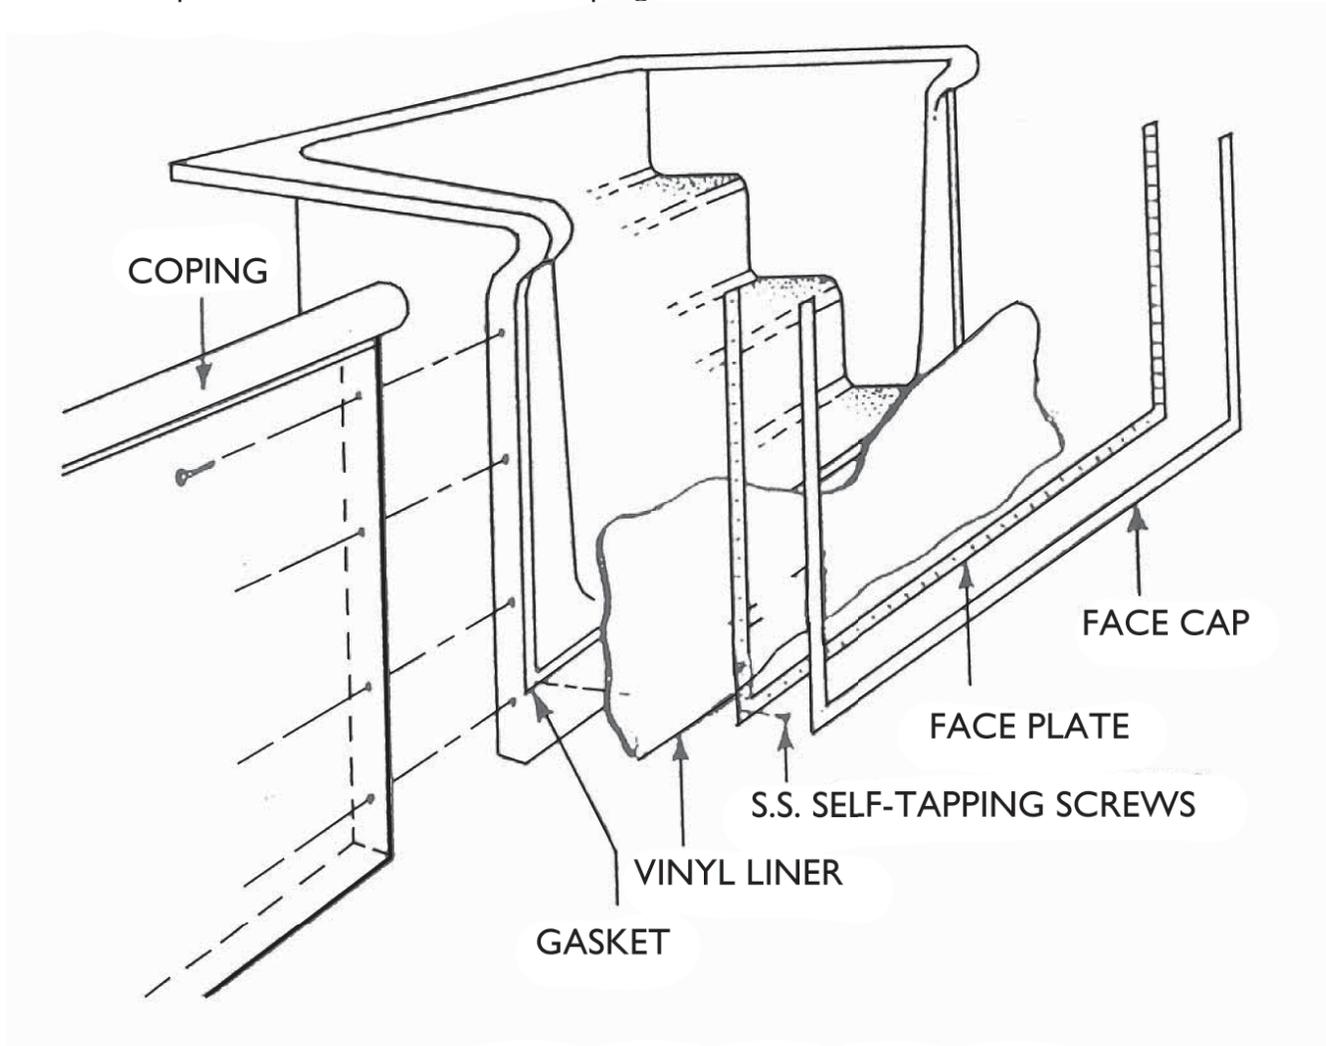

Figure 24: Step Faceplate Installation
13. When the water is 6" deep in the shallow end, remove the vacuum(s) and the sand bags. Install the liner bead in the liner track. If steps are used, install the step faceplate now (see Figure 24).
15. DO NOT REMOVE THE VACUUM(S) WITH LESS THAN 6" OF WATER IN THE SHALLOW END AND DO NOT ALLOW THE VACUUM(S) TO RUN WITH MORE THAN 12" OF WATER IN THE SHALLOW END. IF THE VACUUM(S) ARE SHUT OFF FOR ANY REASON BEFORE THE WATER IS 6" DEEP IN THE SHALLOW END, THE WATER MUST ALSO BE SHUT OFF UNTIL THE VACUUM IS RESTORED.